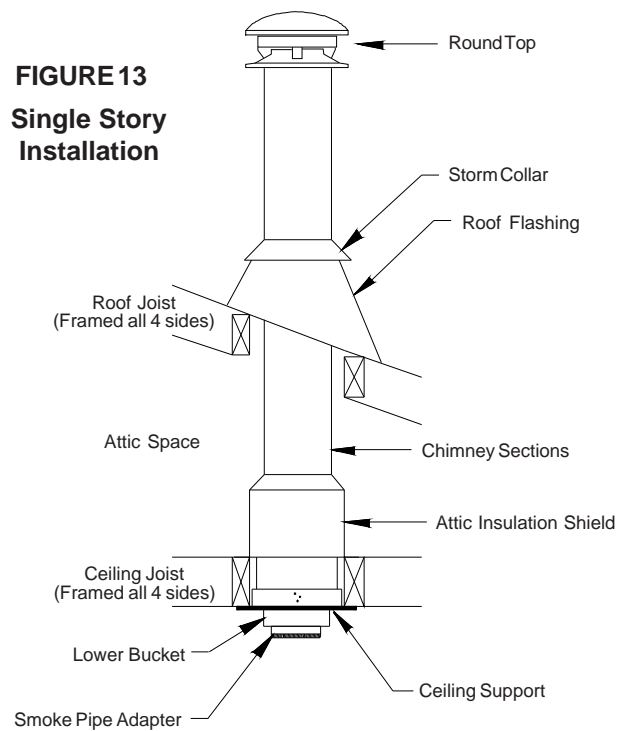

FIGURE 13
The height of the AIS must accommodate the amount of insulation as required by the National Building Code. Where height restrictions will not permit the use of the Attic Insulation Shield, it is permissible to construct an enclosure with the required minimum air space clearance of 2" (50mm) to the chimney all the way to the underside of the roof deck. In this application you will install a Firestop Joist Shield (JS) at the ceiling level, with the exception of a Single Story Installation (see Figure 13).
When an Attic Insulation Shield is required above the Ceiling Support into an attic as shown in Figure 13, ensure that the base of the shield is flush with the top of the joist framing and nailed in place. The telescoping portion of the AIS will eliminate the need to trim the bottom when installed immediately above this support. When fully extended, the AIS will also provide joist shielding when installed in a 2 story main floor or basement applications (see Figures 11 & 15).